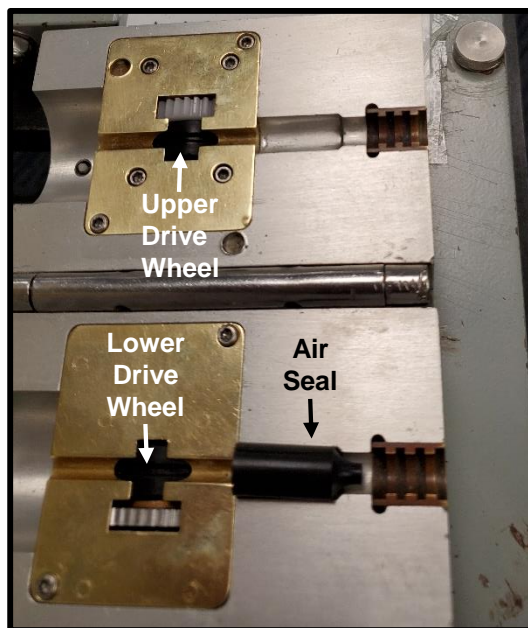

Figure 22
10.3 Select the correct type/size Fiber Bundle Air Seal for the Fiber Bundle to be installed and inspect it for wear. There should be a 3mm Air Seal already Installed in your Blowing Head. **See Fig. 22.** *(Air Seal Must Always Face Slit Down)*